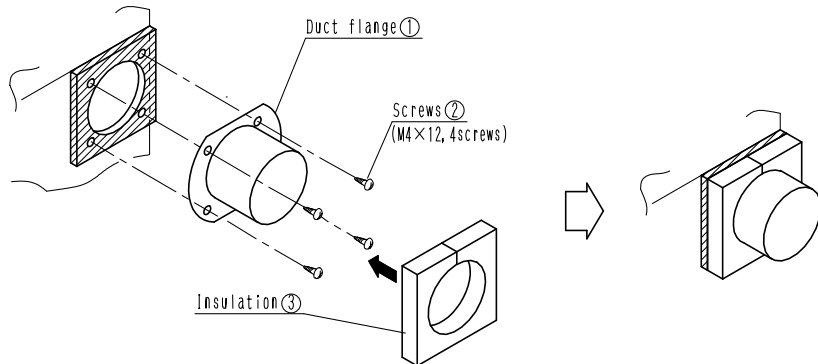

Fig. 3
3. Install the duct flange① with screws② (M4x12, 4 screws) to the opening and adhere the insulation③ (Fig.3)